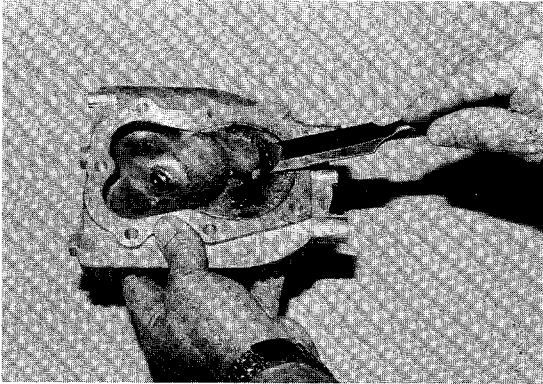

Figure 6-11
2. Bead blast or scrape carbon deposits from head. When scraping carbon deposits, be careful to avoid scratching or nicking the cylinder head (**Figure 6-11**).